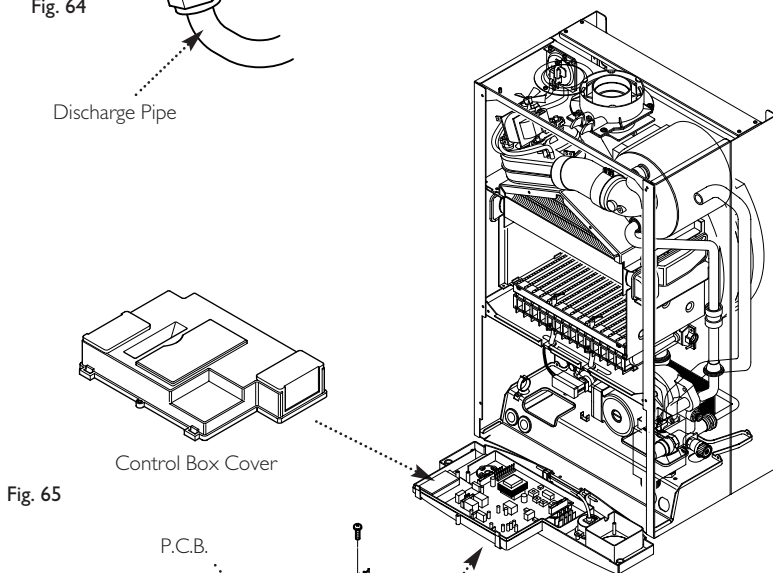

Fig. 65
2. Completely undo the screws securing the control box cover and release the cover retaining barbs from their slots. Disengage the rear of the cover from the control box hinge pin (Fig. 65).